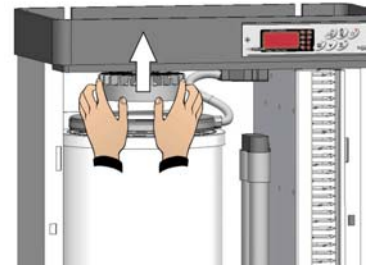

Fig. 31
- Raise the upper steam flange, detaching it from the cylinder (fig. 31).